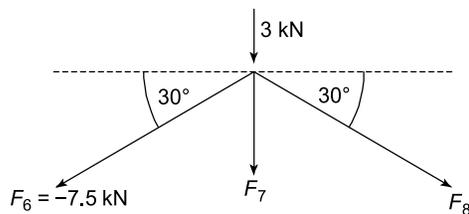

Figure 6.38
**Consider joint (4);** see Figure 6.38.